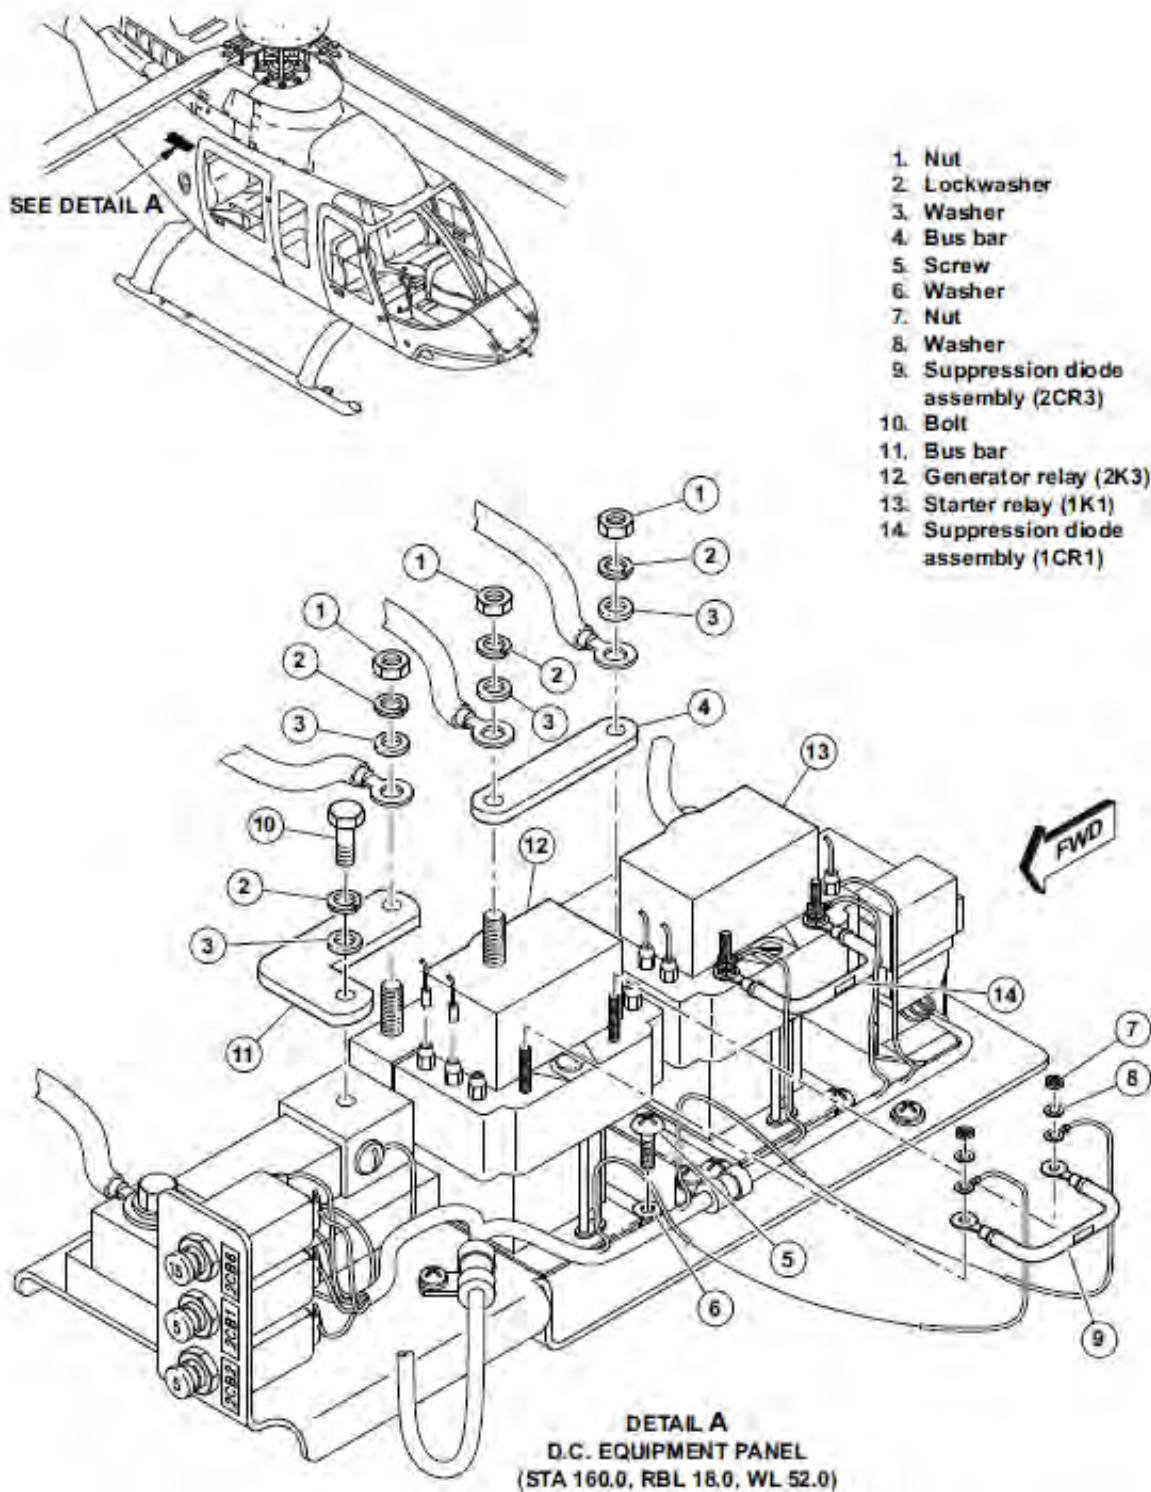

Figure 96-45: Generator Relay (2K3) - Removal and Installation
4. Remove the nuts (1, Figure 96-45), lockwashers (2), and washers (3). Remove the wires and the bus bar (4).
5. Remove the nuts (1), lockwashers (2), washers (3), bolt (10), lockwashers (2), washers (3), and the bus bar (11).
1. Install the generator relay (2K3) (12, on its mounting base in the DC (Figure 96-45) equipment panel, at FS 155.00.
2. Install the screws (5) and washers (6) to attach the generator relay (2K3) (12).